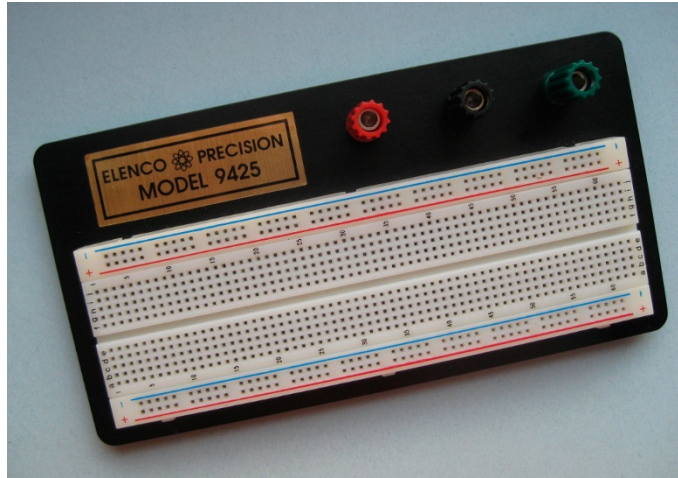

Figure 2-2: This solderless breadboard has 830 contact holes.
- ✓ **Solderless breadboard:** You use a breadboard to build, explore, update, tear down, and rebuild circuits. I recommend you purchase a larger model, such as the Elenco #9425 830-contact breadboard (roughly \$14 at various online suppliers), which is shown in Figure 2-2.